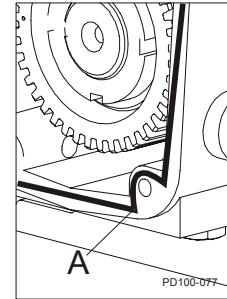

**Figure 62 - Orientation of Oil Seal**
6. Press new oil seal (Figure 62, item 12) into gear case cover flush with outside face, spring facing in.